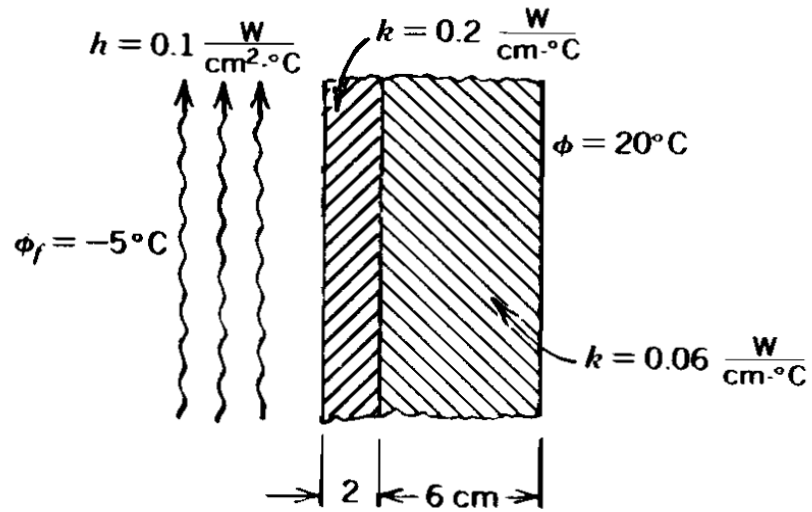

Figure.7
- (b) Determine the temperature distribution through the composite wall shown in Figure.7 when convection heat loss occurs on the left surface. Assume a unit area. CO5-App (16)